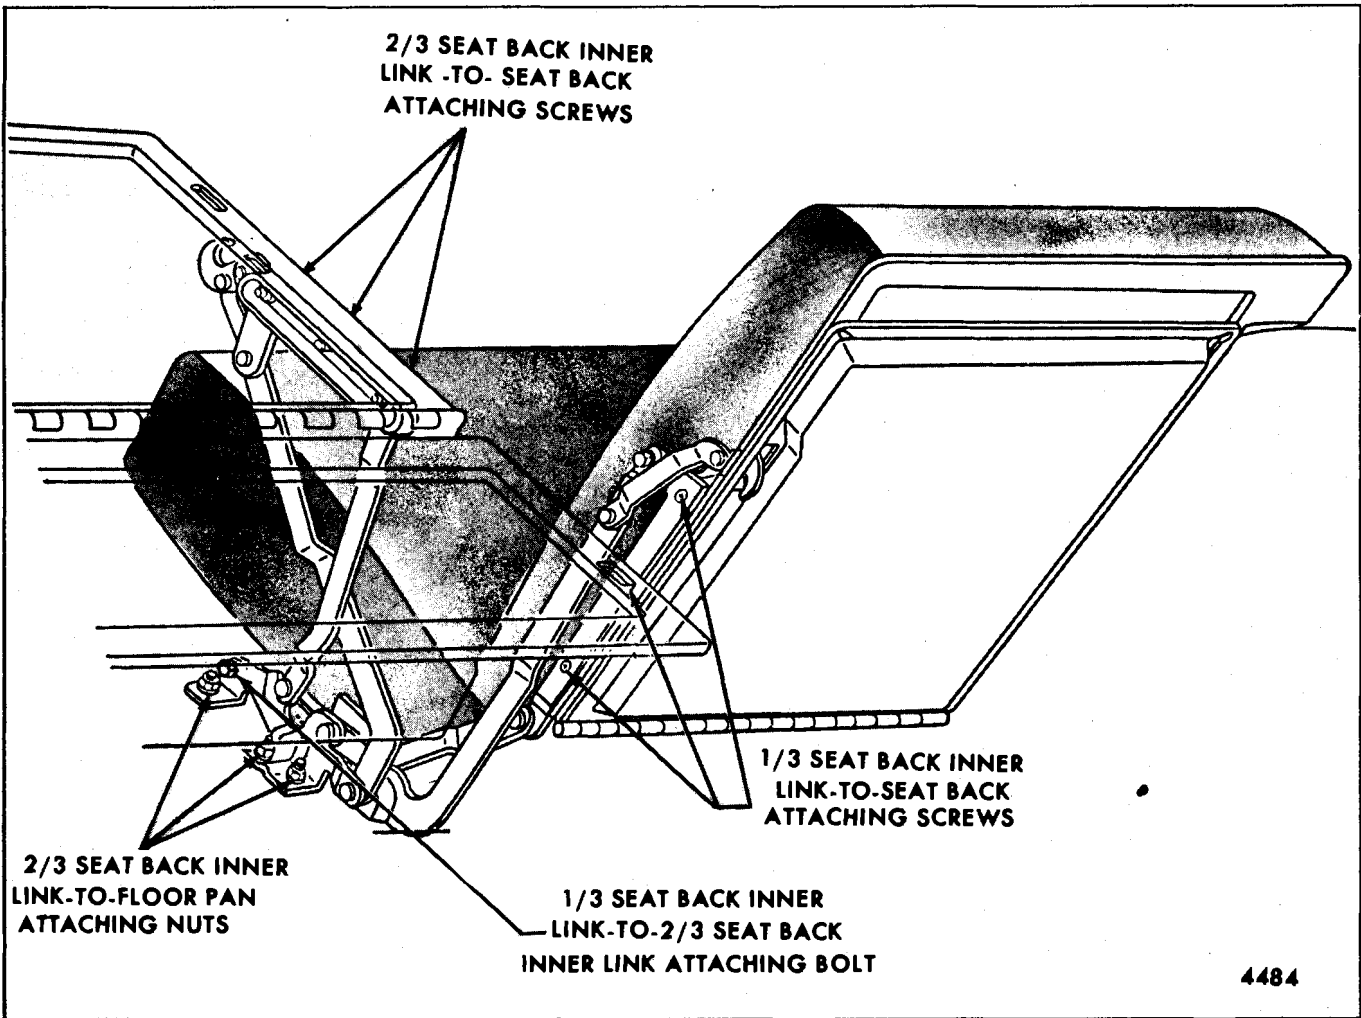

Fig. 14-91-Folding Second 2/3 Seat Back Inner Linkage and 1/3 Seat Back Inner Link - "B" Body Three-Seat Station Wagon
2. At both right and left side of seat back, remove linkage to seat back panel attaching screws (Figs. 14-91, 14-89 and 14-90) and remove seat back assembly with filler panel from linkage.
3. Remove 1/3 seat back inner link-to-2/3 seat back inner link attaching bolt (Fig. 14-91).
4. Remove 2/3 seat back inner linkage-to-floor pan attaching nuts (Fig. 14-91).
bushing and spring washer are installed at 1/3 seat back inner link-to-2/3 seat back inner linkage attachment (Fig. 14-91).